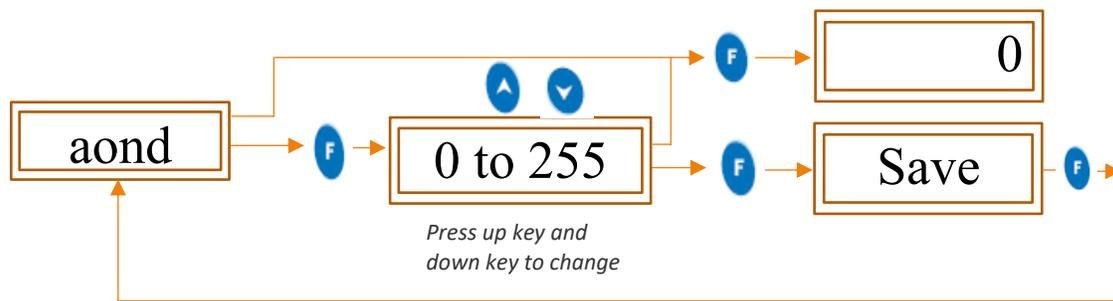

Figure 12 AOND (Alarm on delay)
- To set the Alarm on time delay, follow the procedure shown in figure 12, by pressing the appropriate buttons given on the front panel of the Device.